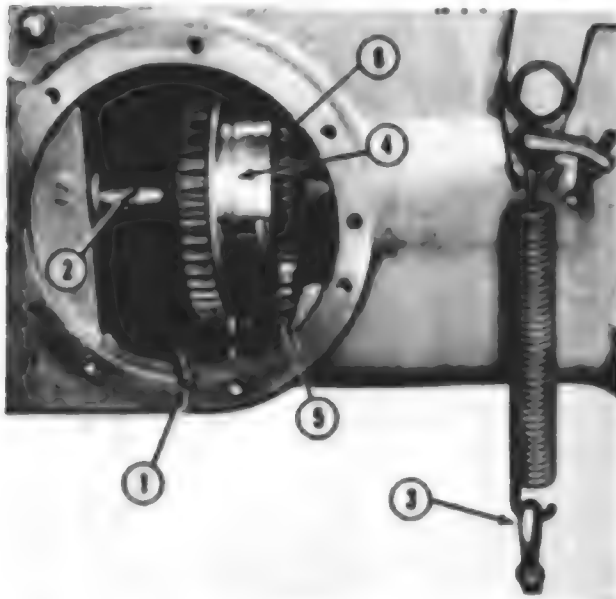

Fig. 63 - View of pto clutch, pump drive gear, lower pto drive shaft and lube pump gear on Models 684, 784 and 884.
Unbolt and remove side pto clutch cover. Refer to Fig. 63 and drive roll pin (1) from the pto clutch and 1000 rpm output shaft (dual speed) or lower pto